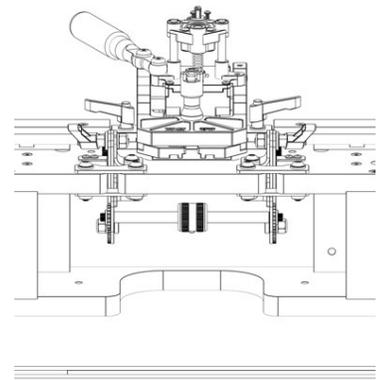
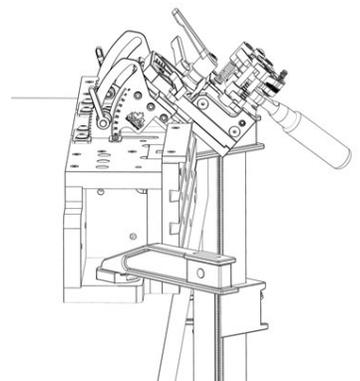

FIG. 12
FIG. 14
2. Using the angular adjustment knob (Part #14) at the back of the workstation (see Figure 12 and 13), rotate the knob away from you to increase the angle on the miter attachment. On each side of the miter attachment it will show you what angle you are set at (See Figure 14) or adjust the attachment until it meets up with your material. Lock both adjustable handles when your miter attachment is set.